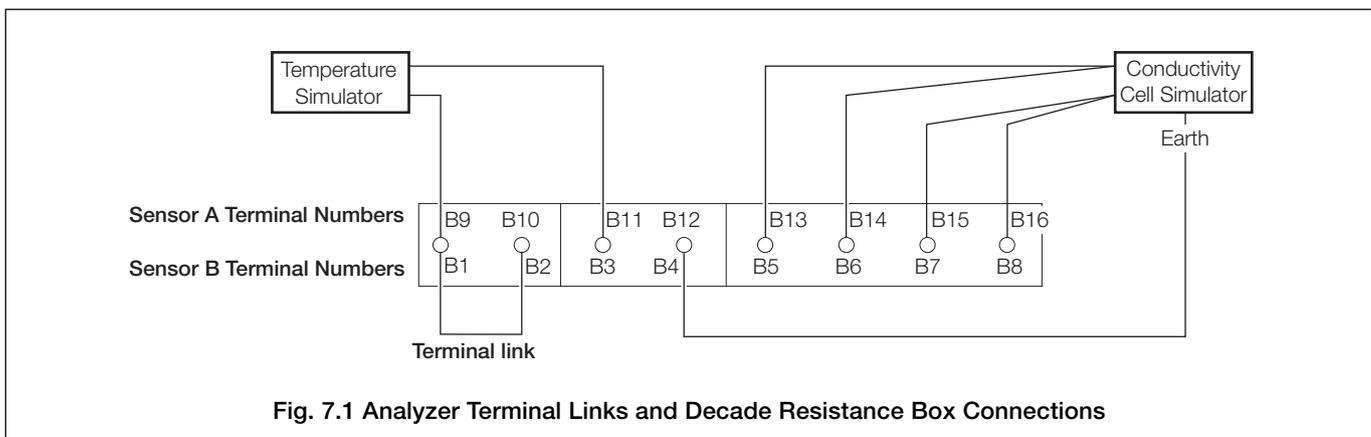

Fig. 7.1 Analyzer Terminal Links and Decade Resistance Box Connections
- b) Sensor A – Fig 7.1:
Sensor B (dual input analyzers only) – Fig 7.1: